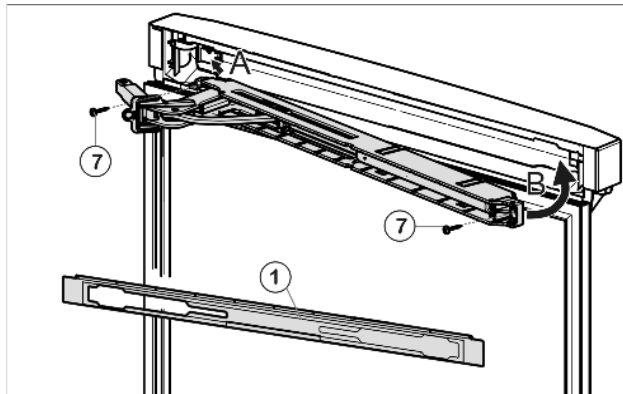

Fig. 38
- With the hinge of the upper soft stop unit facing the door hinge side, engage the soft stop unit (A) and swivel inwards (B).
- Tighten soft stop unit (2 x Torx 15) Fig. 38 (7).